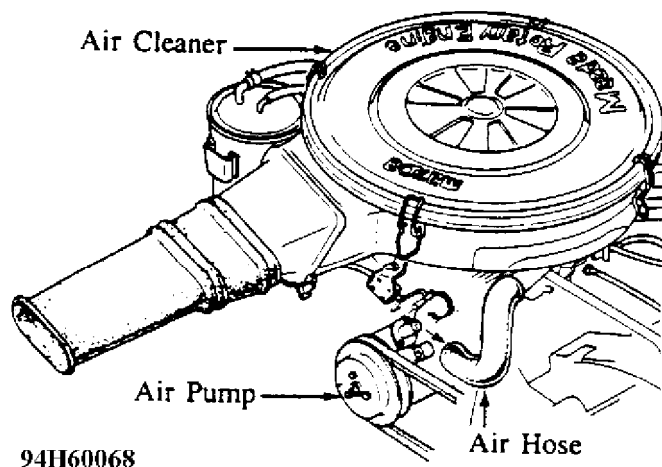

Fig. 2: Disconnecting Hose From Air Pump
1. Disconnect the hose from the air pump as shown in Fig. 2.